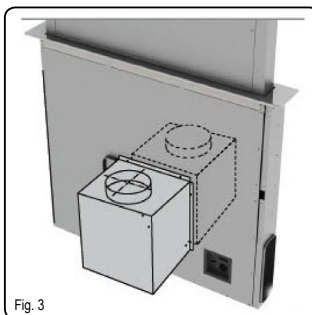

Fig. 3
6. If using an internal motor with the downdraft, place the internal motor in the desired position, with the air outlet facing either upwards or downwards (Fig.3). The motor can be installed either on the front or rear of the downdraft. Once the motor is installed, connect the ducting to the air outlets.